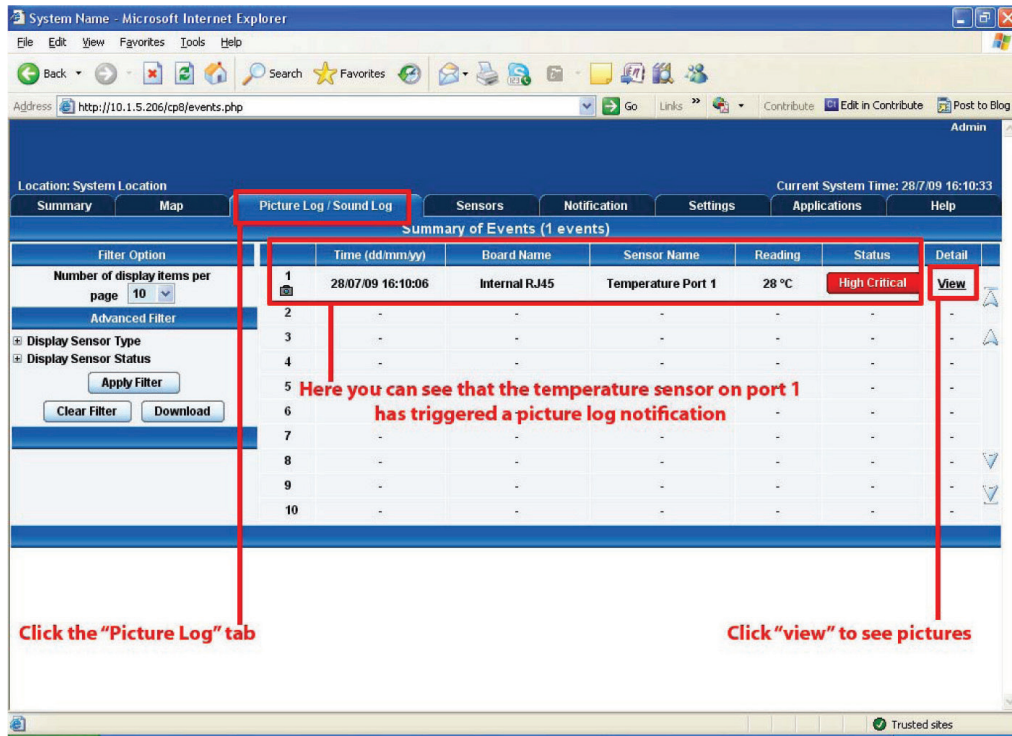

Figure 5-29. Picture and Sound Log tab.
3. Click the “Picture Log/Sound Log” tab. See Figure 5-29.